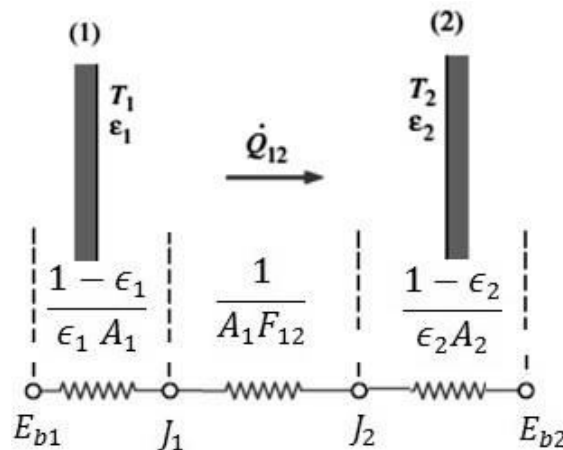

Fig. 6.14 Heat exchange between two infinite parallel planes without radiation shields
- Consider two infinite parallel plates as shown in figure 6.14. Radiation network for the radiation heat transfer consists of two surface resistances and one space resistance as shown in figure 6.14.